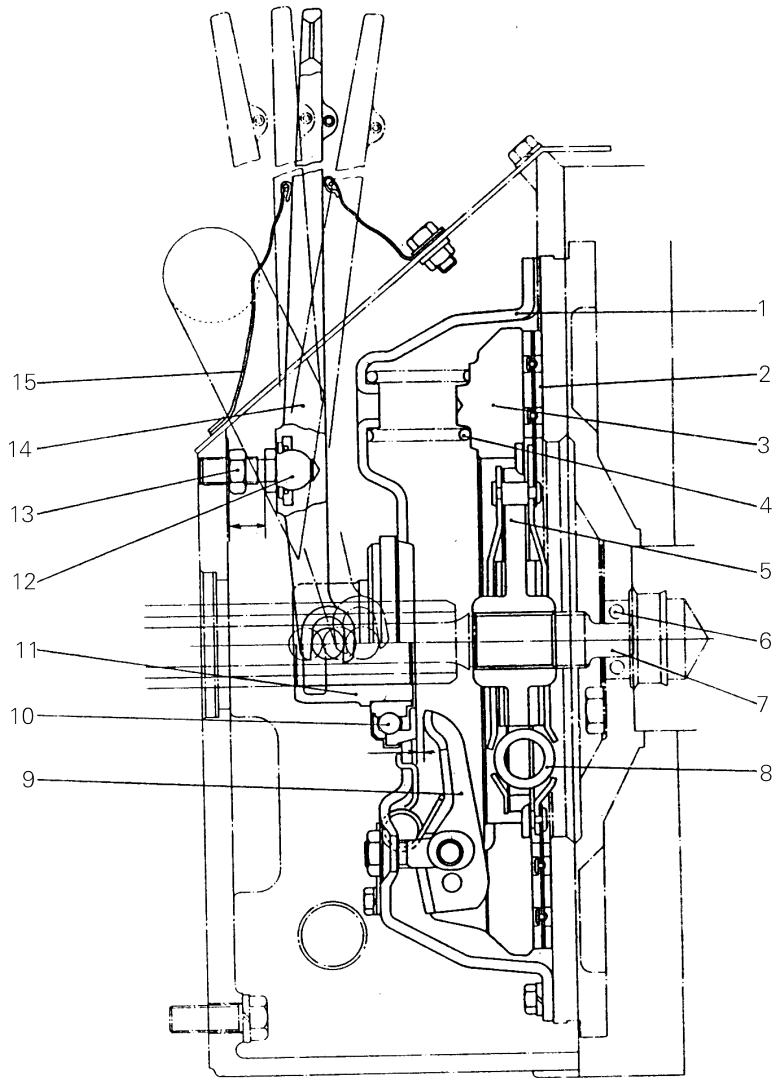
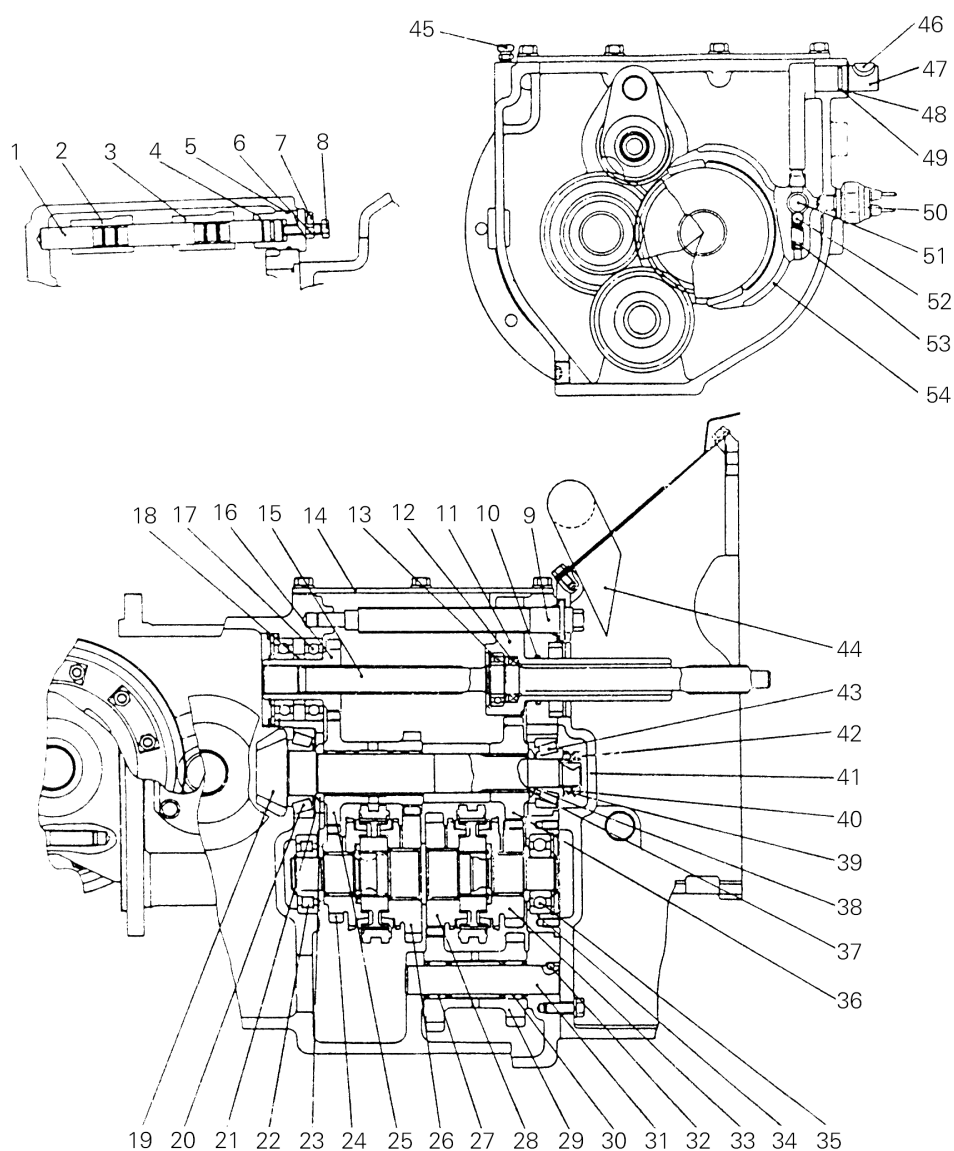
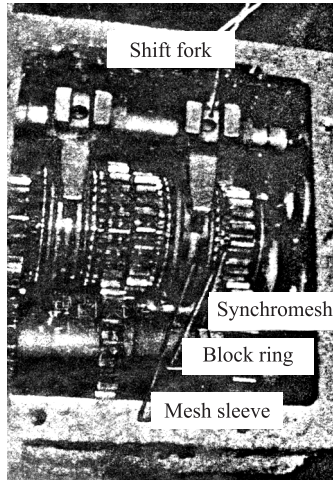

Fig.2-1 Clutch
Fig. 3-1 Drive unit
Fig.3-2 Gearshifting mechanism
(1) Press the clutch pedal and place three spacers between the pressure plate case and release lever to cause the friction piece apart.
(2) Turn counter clockwise the slide lead screw in the upper of the transmission to let the driving shaft go into the transmission (See Fig.3-1).
(3) Remove six mounting bolts on the pressure plate case to cause the flywheel apart and remove the old friction piece right away.
(4) When a new friction piece is installed, notice the hub (See part 5 in Fig.2-1) with the longer spline boss being toward the transmission.
(5) Turn the slide lead screw clockwise and pull out the driving shaft step by step and let its spline match with the hub spline.
The drive unit of clutch type truck is a one-body construction consisting of the transmission, reduction gear and differential (Fig.3-1). The transmission is provided with a synchromesh mechanism that synchronizes the rotation of gears which are about to be meshed, ensuring smooth gear shifting. The transmission of this type avoids clashing gears and reduces noise arising when shifting, especially shifting from forward to reverse or vice versa.
3.2.5 Rotating rod and shift forks (See Fig.3-1 and Fig.3-2)